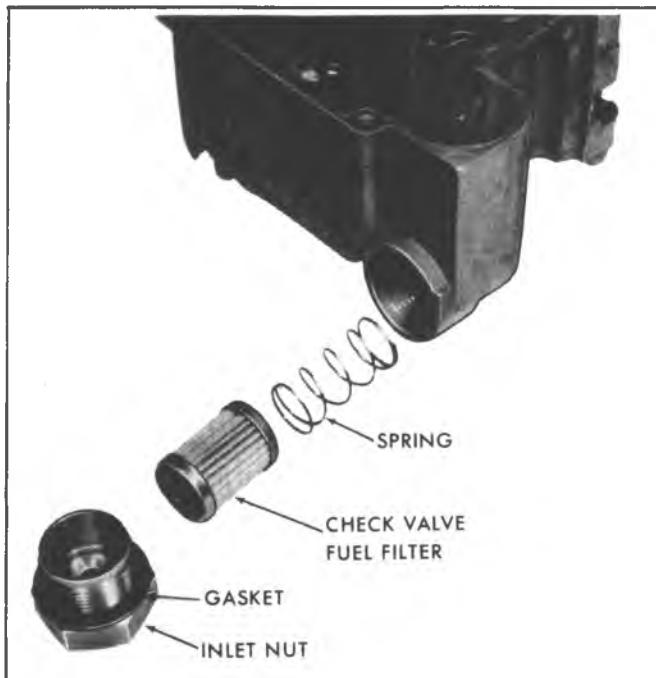

Fig. 6C1-21—Fuel Filter and Check Valve
16. Remove the fuel inlet nut, filter and spring (Fig. 6C1-21).